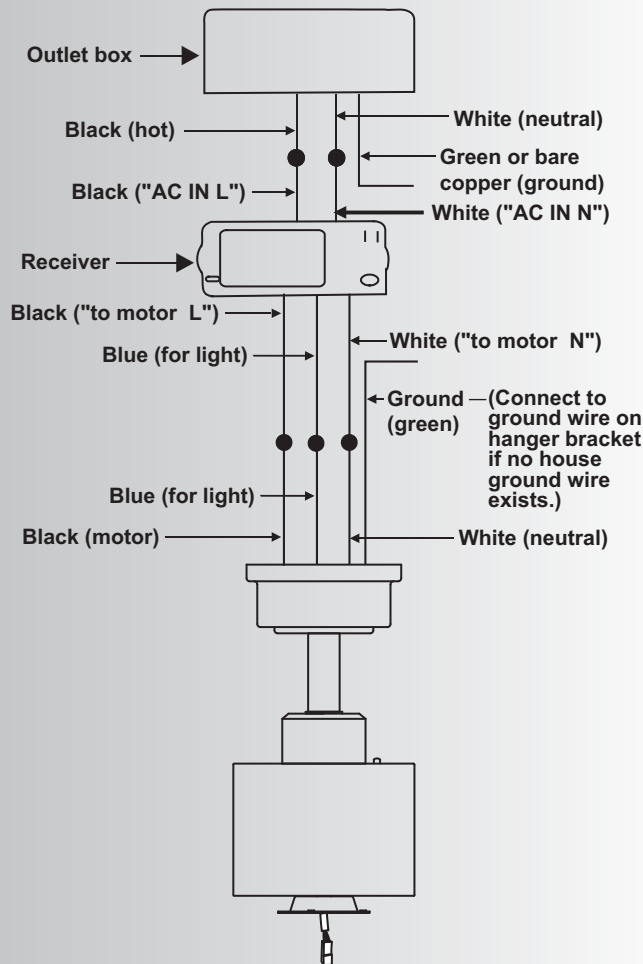

Fig. 14
Step 2. Motor to Receiver Electrical Connections: (Fig. 14) Connect the black wire from the fan to the black wire marked "TO MOTOR L" on the receiver.
Step 3. (Fig. 14) Receiver to House Supply Wires Electrical Connections: Connect the black (hot) wire from the ceiling to the black wire marked "AC in L" from the receiver. Connect the white (neutral) wire from the ceiling to the white wire marked "AC in N" from the Receiver. Secure the wire connections with the plastic wire nuts provided.
Step 4. (Fig. 14) If your outlet box has a ground wire (green or bare copper) connect it to the fan ground wires; otherwise connect the hanging bracket ground wire to the mounting bracket. Secure the wire connection with a plastic nut provided. After connecting the wires, spread them apart so that the green and white wires are on one side of the outlet box and black and blue wires are on the other side. Carefully tuck the wire connections up into the outlet box.